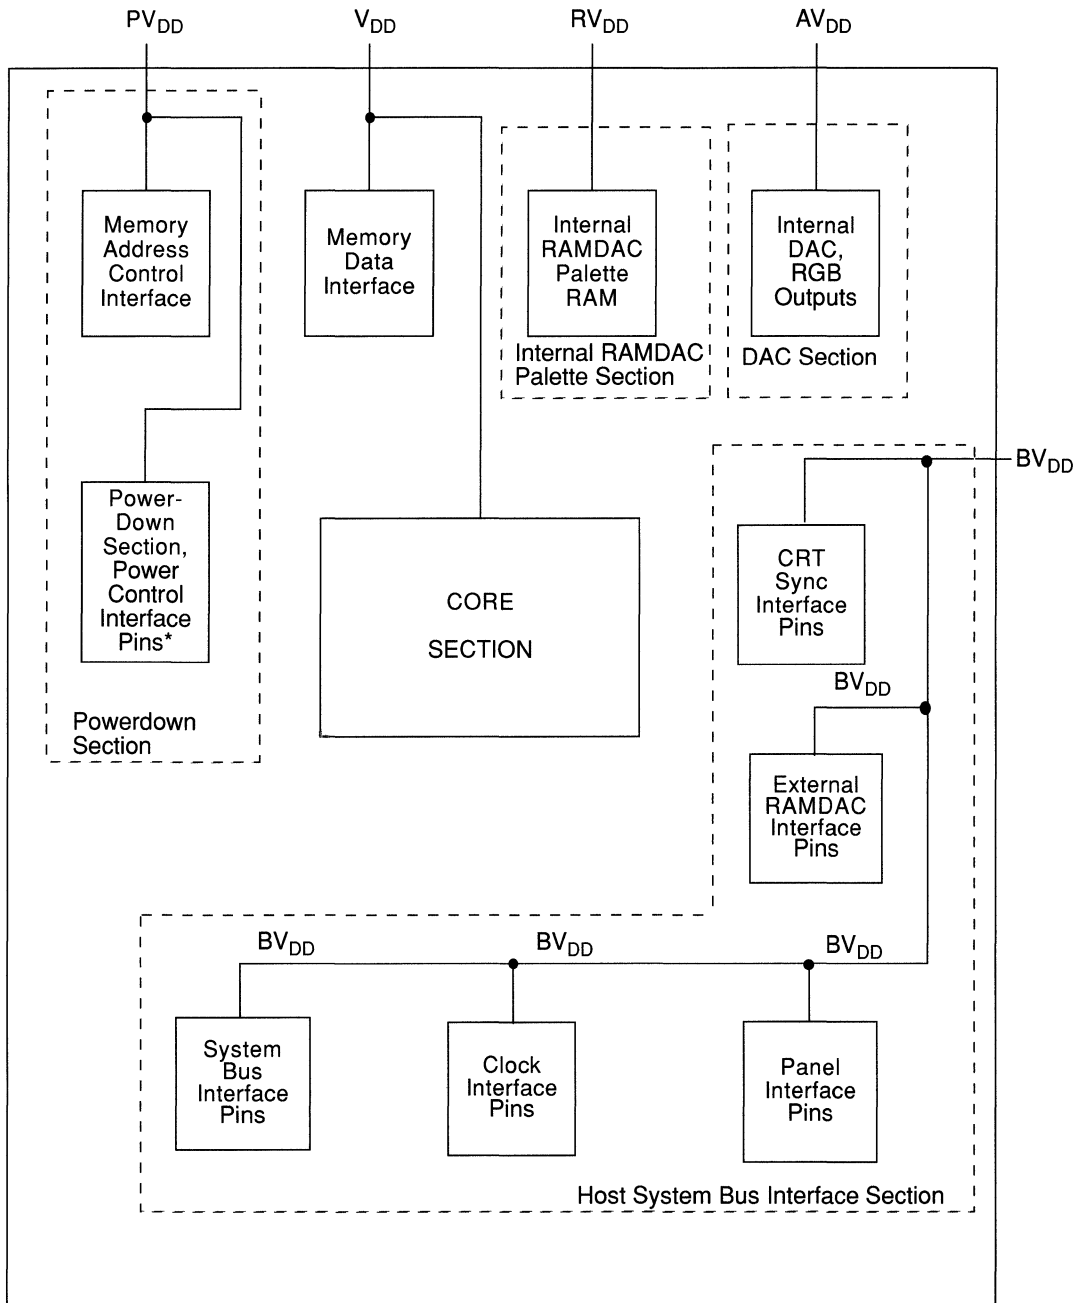

FIGURE 6-2 POWER DISTRIBUTION BLOCK DIAGRAM
- Power Distribution Block Diagram (Figure 6-2)
For the purpose of power distribution, the WD90C26A is divided into functional sections. Each section is provided with its own power input pins and given a distinct designator as shown in Figure 6-2. The separate power distributions sections are: